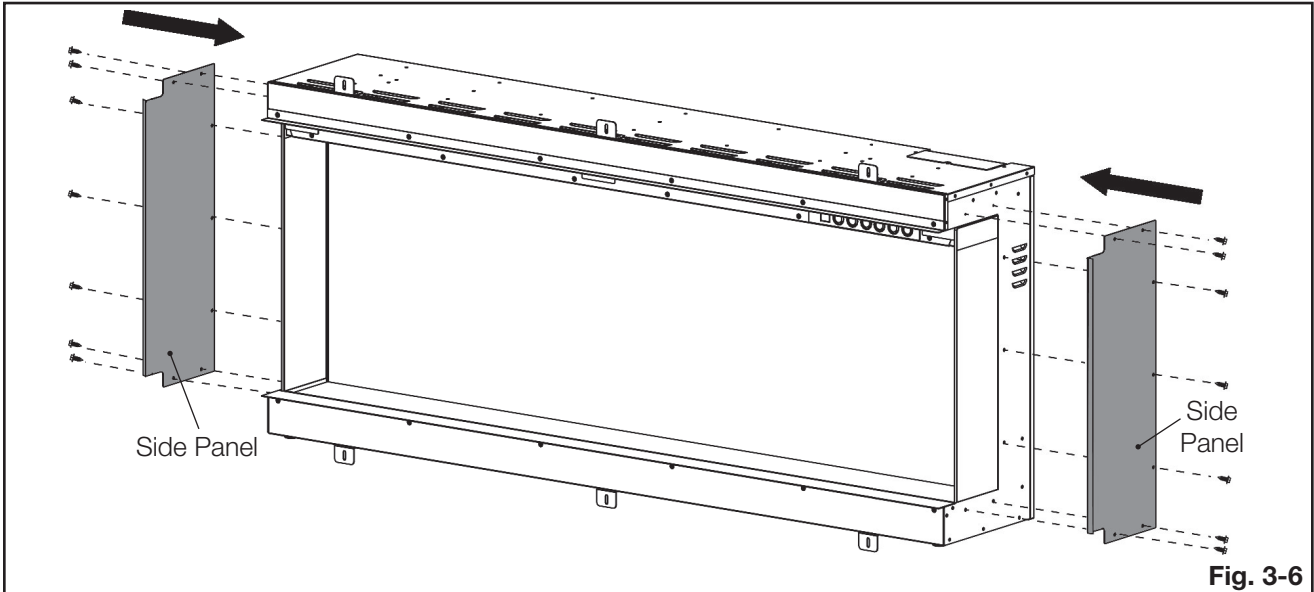

Fig. 3-6
1. Re-secure both side panels using the 14 screws previously removed (**Fig. 3-6**).